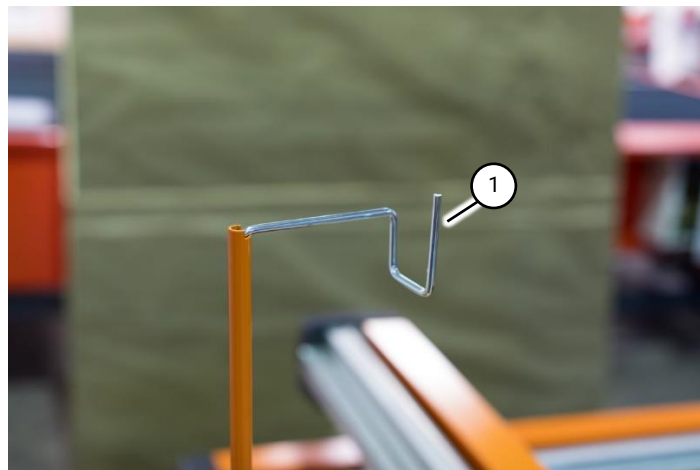

Fig 21 Torch lead hook
2. Insert the torch lead hook into the top of the cable post (Fig 21 (1)).